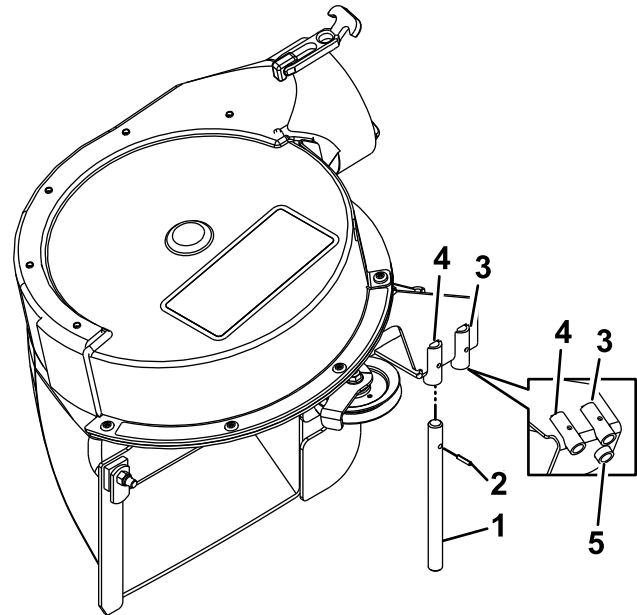

Figure 10
7. Mount the blower on the deck by inserting the mounting pin into the tube welded to the rear corner of the deck. Use Figure 10 to determine the pin location in the blower frame.